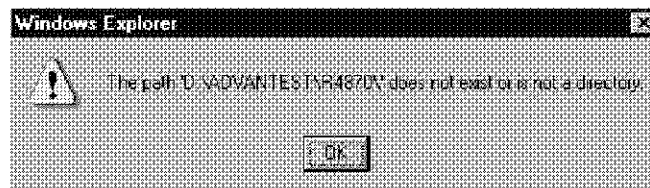

Figure 2-30 Explorer Error Message
1. Do not delete or change the names of the D:Advantest directory and the directories in it. If the Advantest directory is accidentally deleted and then the drop down menu is clicked, the error message shown in Figure 2-30 is displayed. Explorer is not displayed.